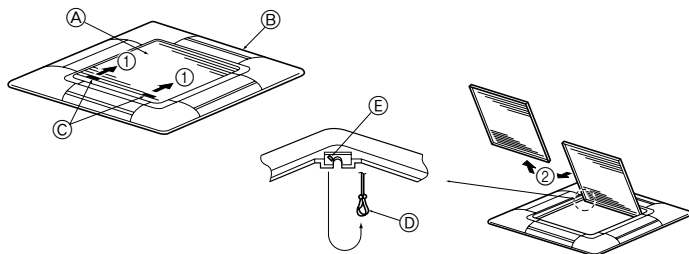
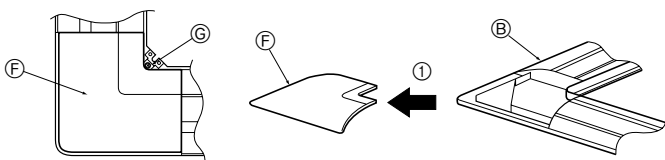

Fig. 8-3
Fig. 8-4
8.2.1. Removing the intake grille (Fig. 8-3)
- Slide the levers in the direction indicated by the arrow (1) to open the intake grille.
- With the intake grille in the "open" position, remove the hinge of the intake grille from the grille as indicated by the arrow (2).
8.2.2. Removing the corner panel (Fig. 8-4)
- Remove the screw from the corner of the corner panel. Slide the corner panel as indicated by the arrow (1) to remove the corner panel.
- (A) Intake grille